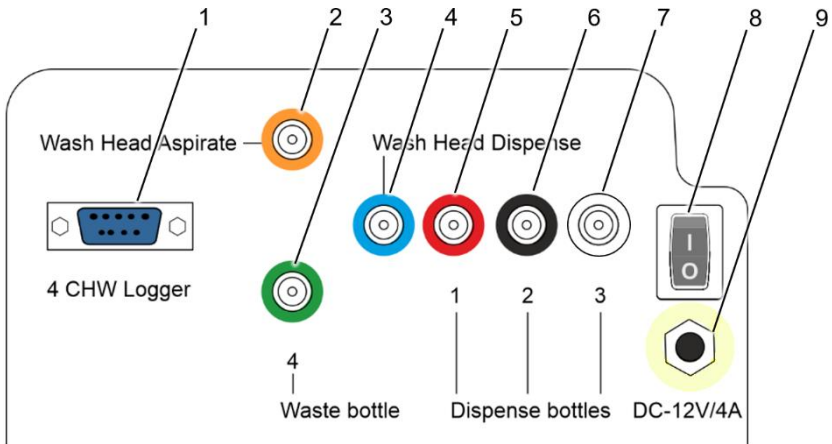

**Figure 1. Complete set**
- 4.2 **Complete set.** Numbers in the first column correspond to numbers on Figure 1.
- Unpack the plate platform (fig. 1/2).
**Note.** All tubes (fig. 1/6–1/8) and fittings (fig. 3/2–3/7) are colour-coded. Ensure that the tubes are connected securely.
- Align the thin tube with a blue stripe (fig. 1/7) with the slot on the upper side of the valve (fig. 2/6).
- Install the protective cover (fig. 1/4). Ensure that manifold tubes are covered but are not squeezed.
- Connect the power cord to the external power supply (fig. 1/16)